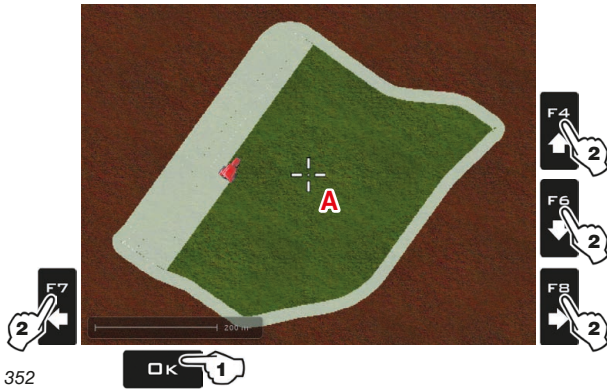

Fig. 352
- 1 In the field overview screen (Fig. 352) press **OK**.